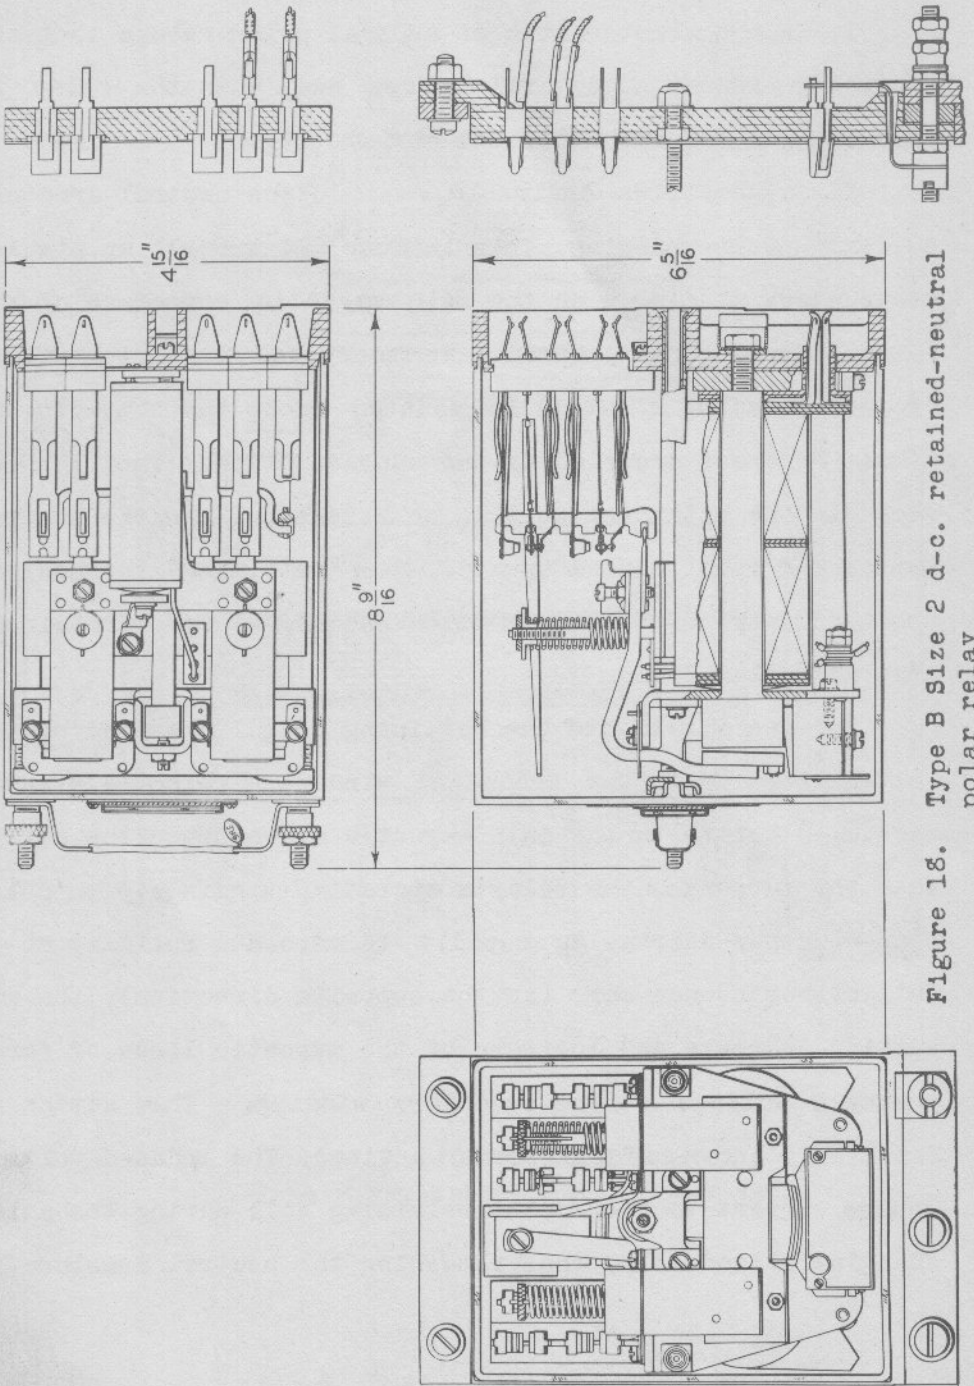

Figure 18. Type B Size 2 d-c. retained-neutral polar relay
- (d) Size 2 d-c. retained-neutral polar relay, Figure 18, and Catalog Section E Part 32.